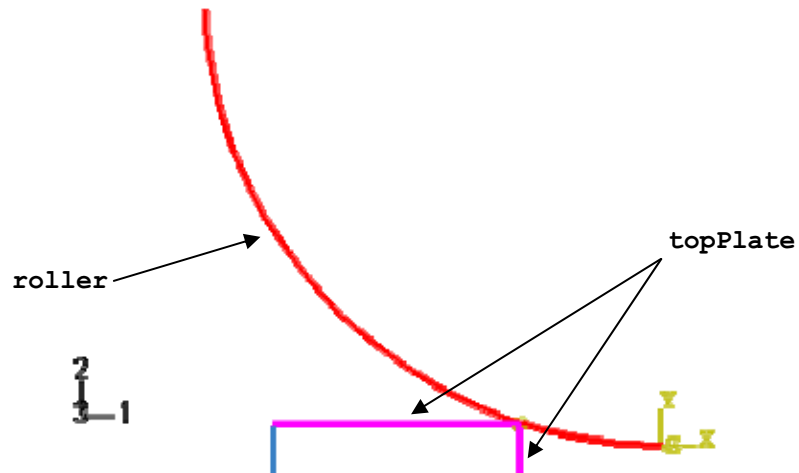

Figure W15-5 Surfaces.
2. In the Model Tree, double-click the **Surfaces** item underneath the **Assembly** container. Create the following surfaces corresponding to the regions shown in Figure W15-5: